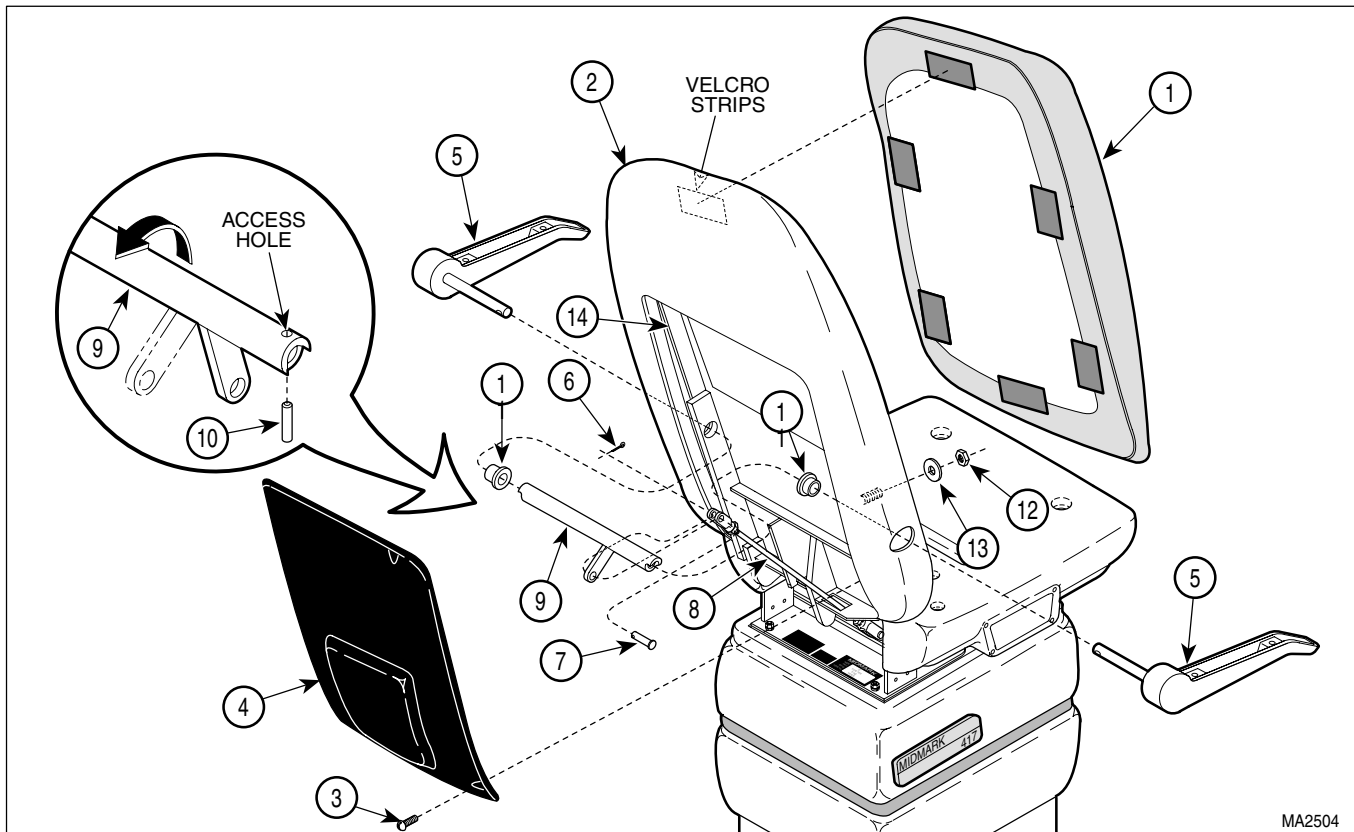

Figure 4-32. Plastic Back Section
- (2) Unplug power cord from wall receptacle.
- (3) Remove upholstered back section (1, Figure 4-32) from plastic back section (2).
- (4) Remove four screws (3) and back cover (4) from plastic back section (2).
- (5) While supporting arm castings (5), remove cotter pin (6), clevis pin (7), and disconnect clevis (8) from arm tube weldment (9). Lower arm castings.
- (6) Rotate arm tube weldment (9) downward as far as it will go, so a punch can be inserted thru access hole in arm tube weldment.